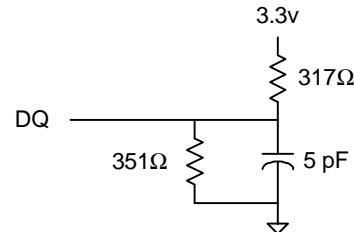

Fig. 2 OUTPUT LOAD EQUIVALENT
6. Output loading is specified with $CL=5pF$ as in Fig. 2